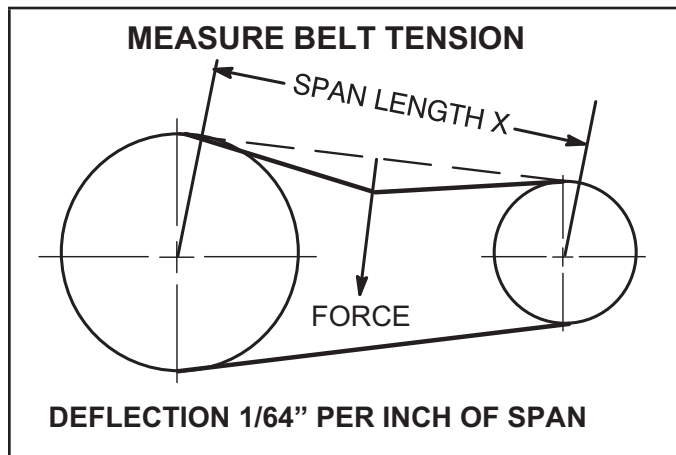

FIGURE 26
- 1 - Measure span length X. See FIGURE 26.
- 2 - Apply perpendicular force to center of span (X) with enough pressure to deflect belt $\frac{1}{64}$ " for every inch of span length.